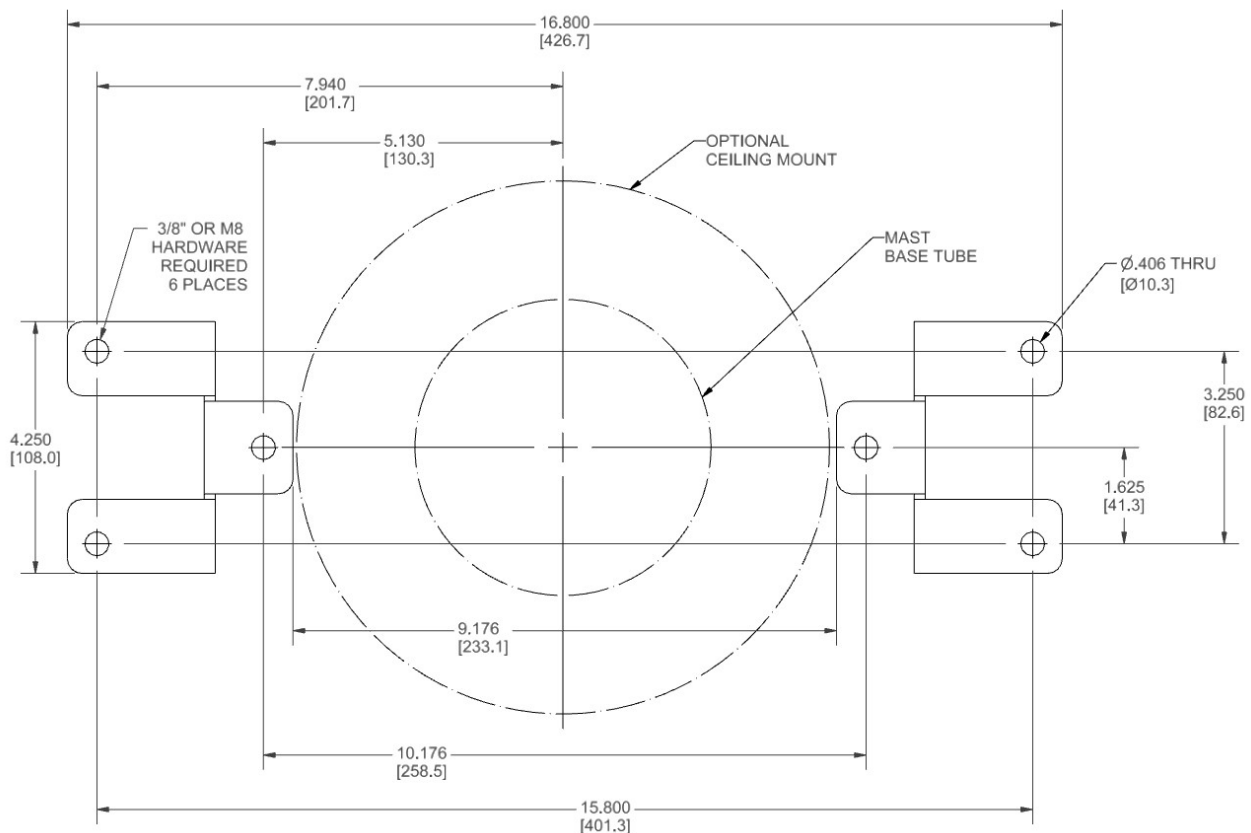

Figure 5-11 Night Scan Vertical Saddle Mounting Holes
1. Drill six 3/8 inch mounting holes into the mounting structure (Figure 5-11).
1. Drill six mounting holes into the mounting structure according to Figure 5-11. The brackets can be used as a template to mark locations.